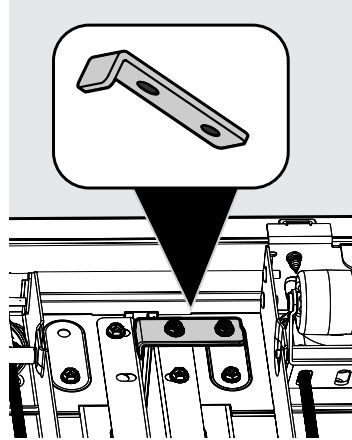

Fig. 8
- With the refrigerator still on its back, use a $\frac{5}{16}$ " nut driver to remove two 4H bolts and fasten the 10H L-Bar (Fig. 8).